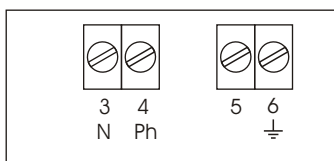

Fig. 11
- 2 - Connect the load to the terminal blocks (fig. 11):